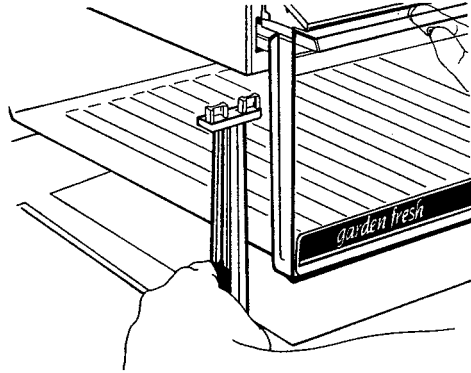

Figure 30.
- i. Slide other crisper system to left* and slide out. See Figure 30.